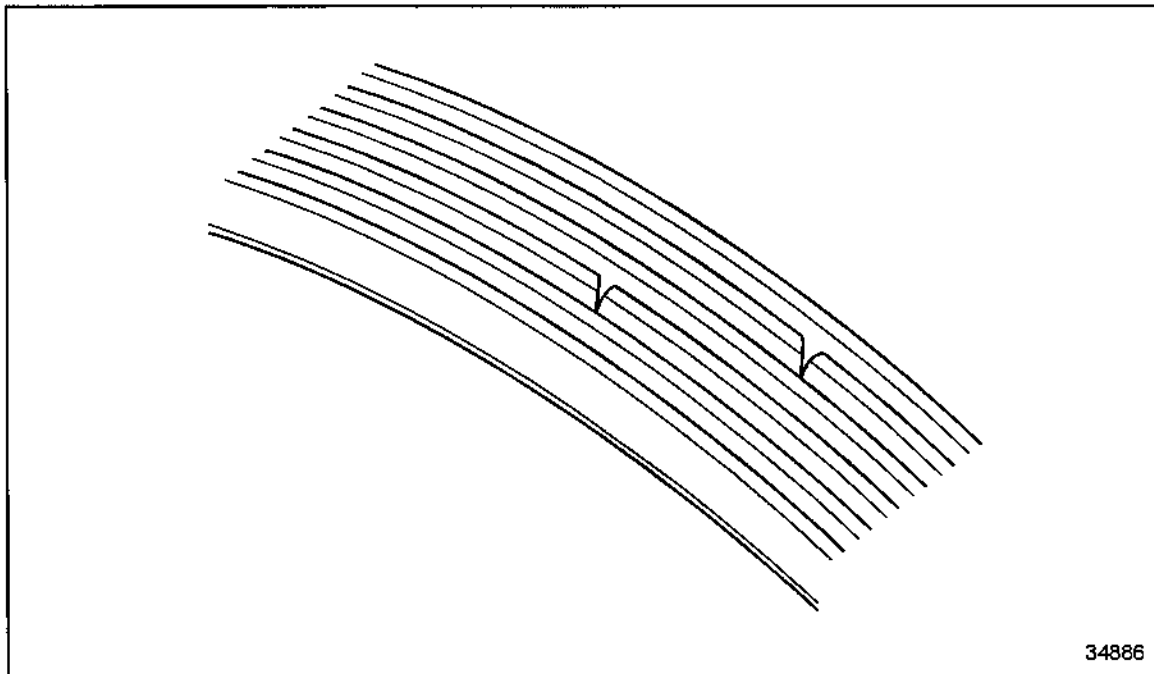

Figure 32 Normal Wear
1. Normal wear would have one or two cracks measuring approximately 25 mm (1 in.). Cracks usually appear after long-term use. The vee-ribbed belts can continue to be used. See Figure 32.